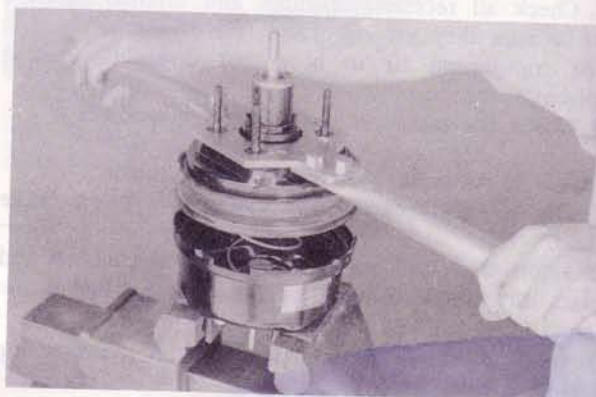

Fig. 11-18 Removing rear shell
5. Attach a suitable wrench to the studs of the rear shell as shown in Fig. 11-18. Rotate the rear shell clockwise to unlocked position.